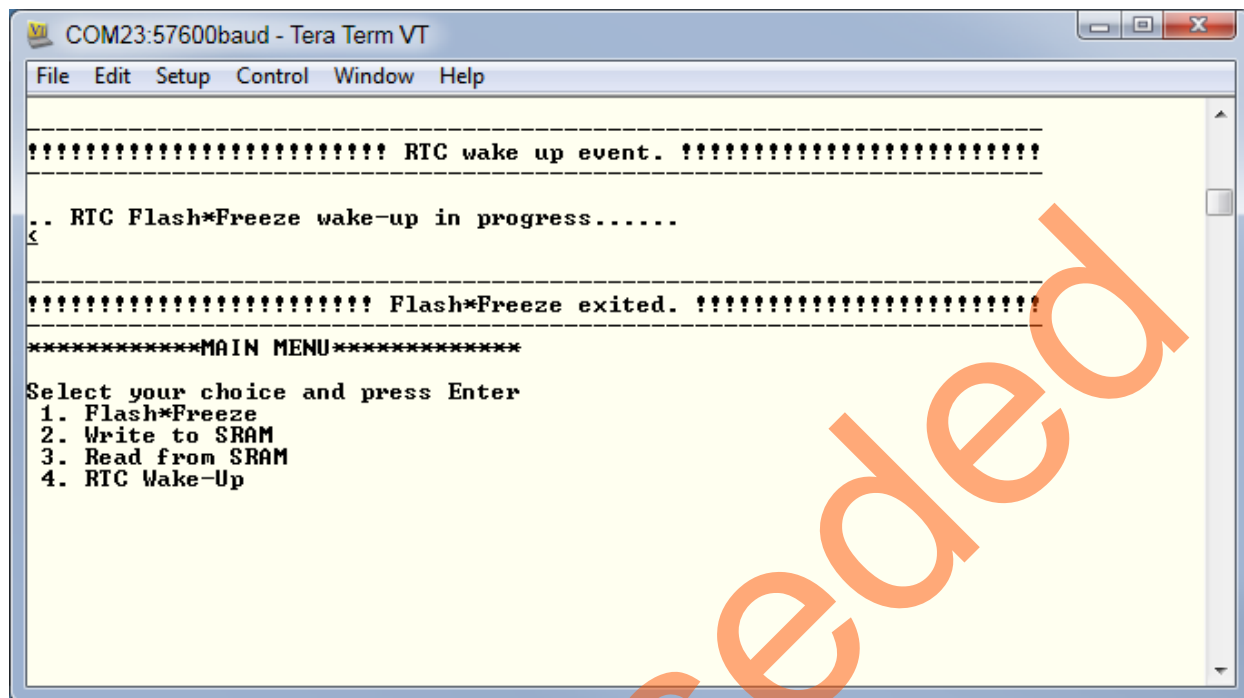

Figure 17 • RTC F*F Exit Event
2. Select 4 (RTC Wake-Up). The RTC is initialized with an RTC_PRESCALER value. The RTC counter is reset then the RTC is configured as Single Shot Alarm mode. The counter is then started. When the counter reaches its set value, an interrupt is triggered and the device wakes up from F*F mode, as shown in Figure 17 on page 16.